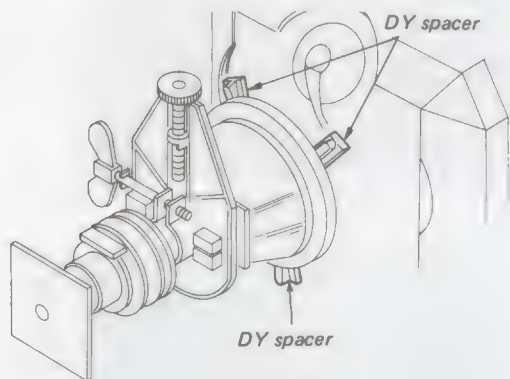

Fig. 5-12.
- 1) The adjustment should be done by moving the deflection yoke and the yoke should be fixed with the DY spacers after the adjustment. (See Fig. 5-12.)